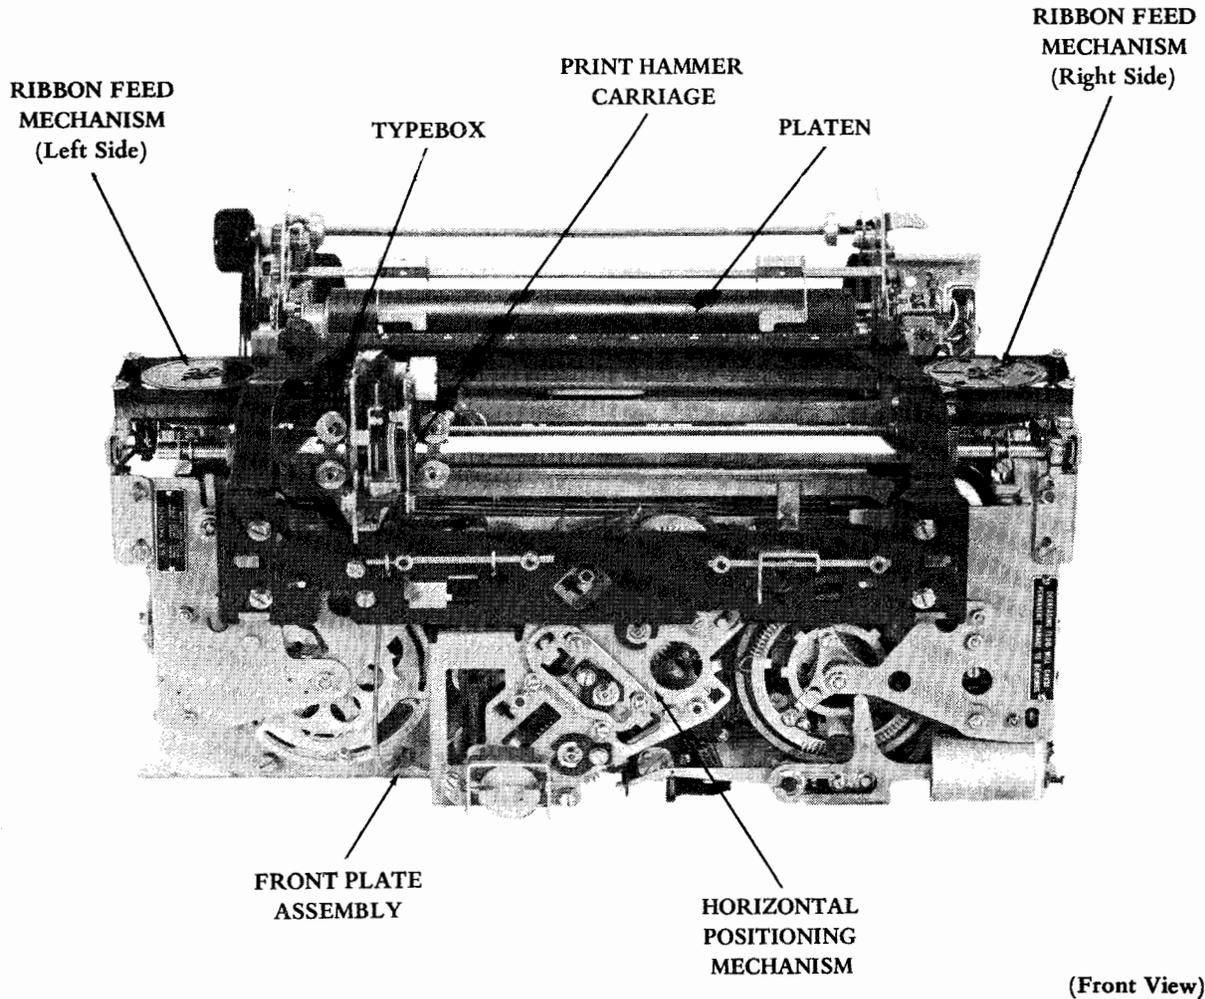

Figure 2 - 37 Typing Unit (Friction Feed)
2.08 To remove the ribbon feed mechanism (Figure 2) from the unit – left side, proceed as follows.
2.09 To replace the ribbon feed mechanism – left side (Figure 2), reverse the procedure used in removal. Check the following adjustments:
2.10 To remove the ribbon feed mechanism from the unit – right side (Figure 2), remove the retaining ring from the post on the drive arm. Remove one locknut and sleeve from the right blocking lever and connecting rod connection.
2.11 To replace the ribbon feed mechanism – right side (Figure 2), reverse the procedure used in removal. Check Ribbon Reversing Connecting Rod adjustment.
2.12 To remove the print hammer carriage from the unit (Figure 2), proceed as follows.
2.13 To replace the print hammer carriage (Figure 2), reverse the procedure used in removal. Check the following adjustments:
2.14 To remove the front plate assembly from the unit, proceed as follows (Figures 2, 4, 5, and 6).
2.15 To replace the front plate assembly (Figures 2, 4, 5, and 6), reverse the procedure used in removal. The carriage return lever must be in the slot in the carriage return link assembly. The horizontal positioning slide trip levers must be connected to their respective codebars.
2.16 To remove the horizontal positioning mechanism (Figure 2) from the unit, proceed as follows.
2.17 To replace the horizontal positioning mechanism (Figure 2), reverse the procedure used in removal. Make sure that the third idler gear is placed in position before mounting the horizontal positioning mechanism to the front plate. Remount print carriage guideplate; then set Ribbon Feed Main Brackets Left and Right adjustment to setting, recorded in 2.16(2), by moving the print carriage guide up or down. Check the following adjustments: